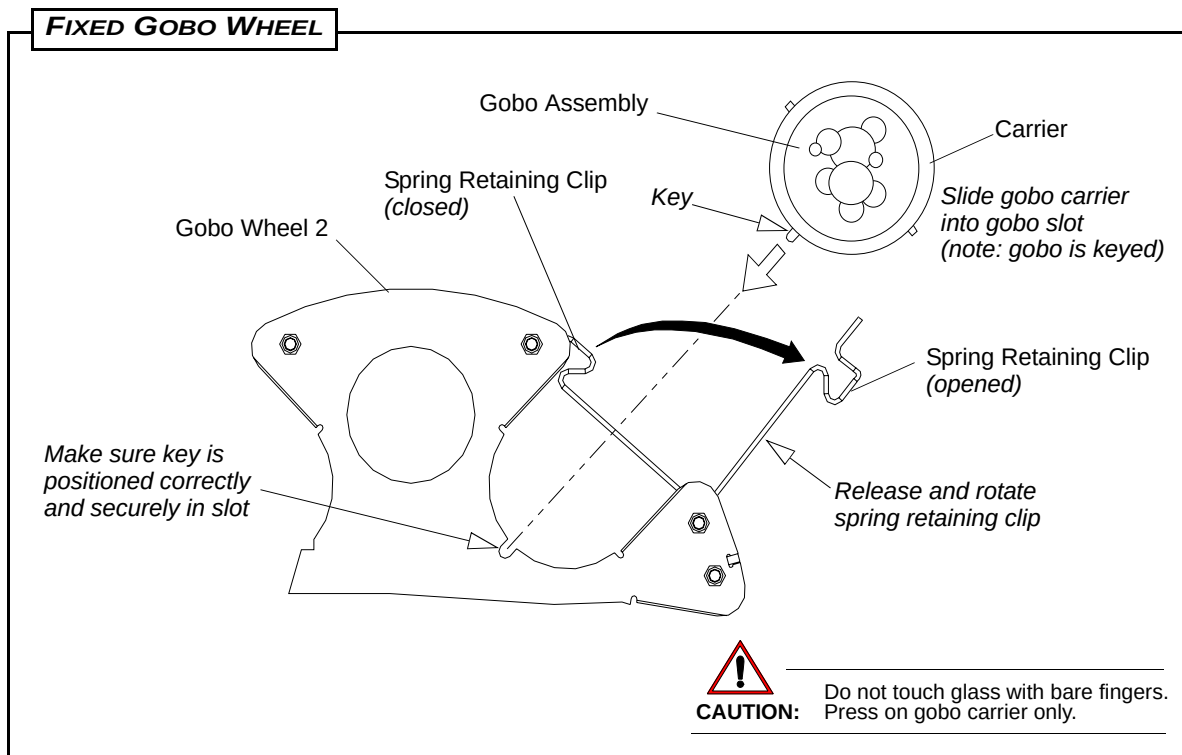

Figure 2-9: Fixed Gobo Wheel - Gobo Replacement
- Release (open) spring retaining clip as shown in Figure 2-9.